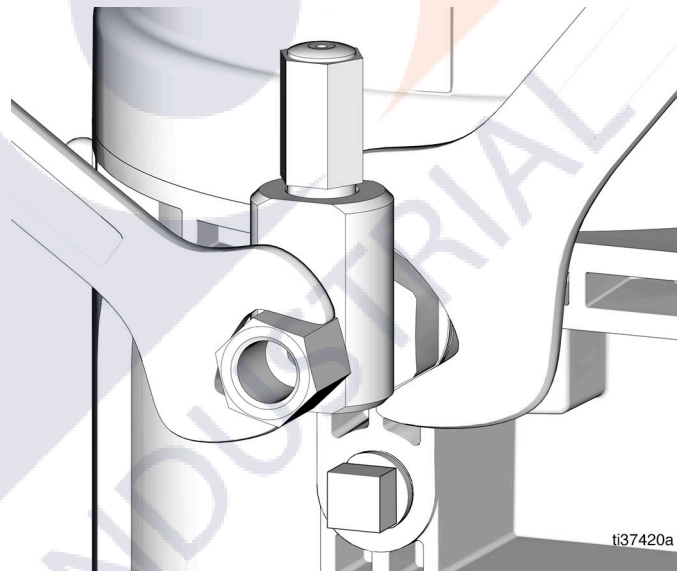

FIG. 23
3. Tighten the pump element fitting using two wrenches working in opposite directions (FIG. 23).